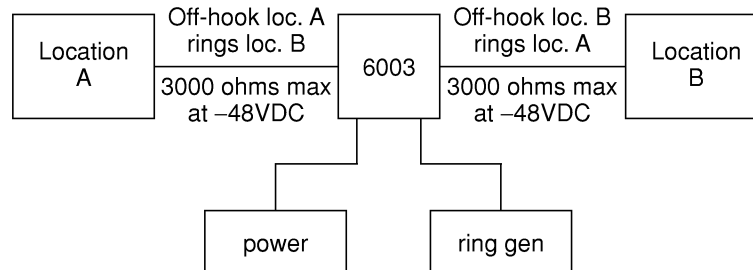

Figure 2-1 6003 Interconnects Two Lines or Trunks
- 2.1 The 6003 may be connected to 2wire metallic facilities to provide bidirectional ARD service. The 6003 is used on metallic facilities connecting two stations or two trunks (refer to Figure 2-1).